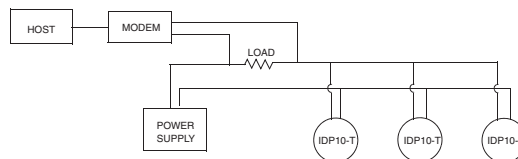

Figure 15. Typical Multidrop Network
Figure 15 shows a typical multidrop network. Do not use this figure as an installation diagram. Contact the HART Communications Foundation, (512) 794-0369, with specific requirements for multidrop applications.